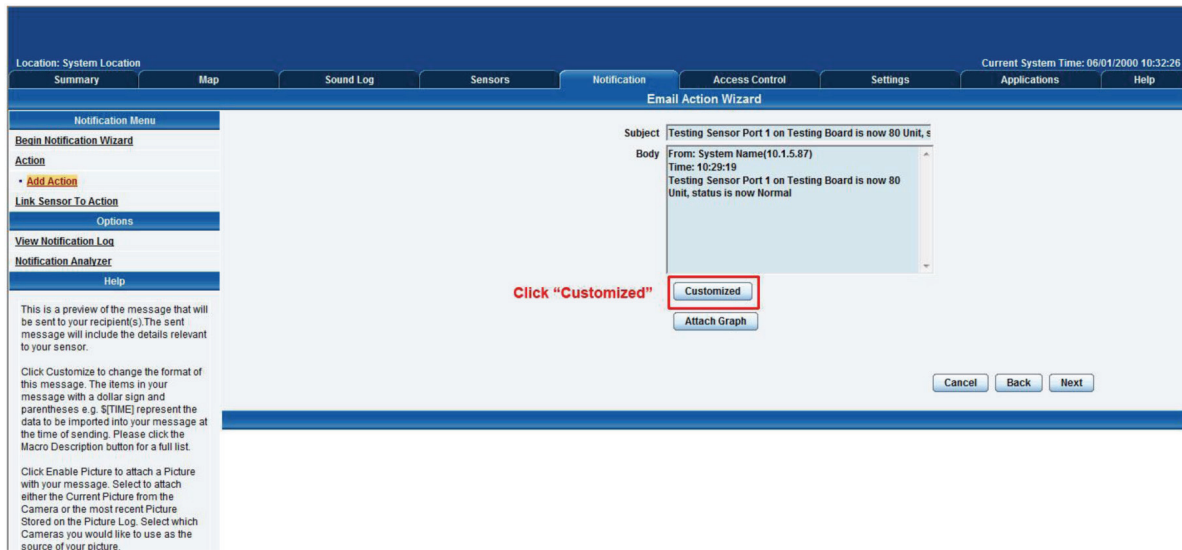

Figure 4-12. Input e-mail name and message.
- After clicking “Next,” you will get a page where you can input the e-mail name and message. Click the “Customize” button, and the fields will re-write in a format that will allow for an automated e-mail that will display the sensor information. (See Figure 4-12.)